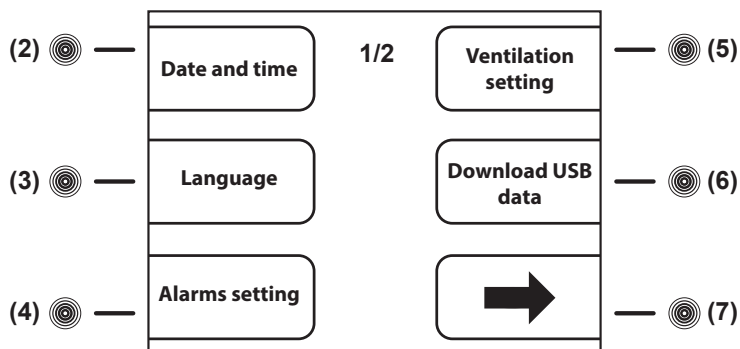
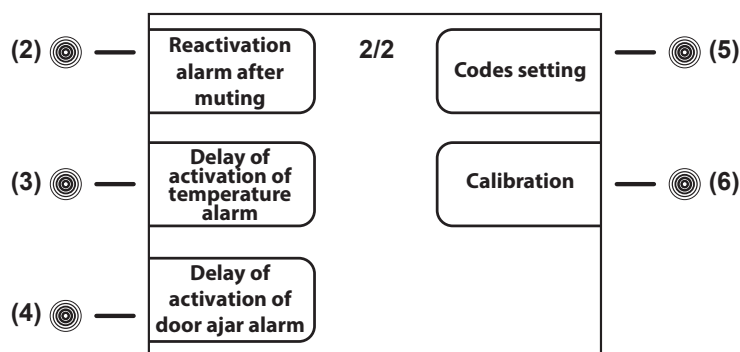

Fig.15
Fig.16
To access to the SETTING menu, press the **touch-button (7)** from the main menu screen-shot. The access is to the first page of the menu (**Fig.15**).
To access to the second page of the SETTING menu (**Fig.16**), press the **touch-button (7)→** from the first page of the SETTING menu (**Fig.15**).
- press the **touch-button (7)** to access to the setting menu (**Fig.15**)
- press the **touch-button (3)** to select the menu "Language"
- using the **touch-buttons (4)↑** and **(7)↓** to set the desired language and then press the **ENTER touch-button (12)** to confirm the new settings
8.3.6.2 Alarm setting (touch-button (4) Fig.15)
To access to the ALARM SETTING menu, press the **touch-button (4)** while the display shows the first page of the setting menu (**Fig.15**).
- press the **touch-button (4)** to access to the screen-shot SETTING PRODUCT LOW TEMPERATURE ALARM
- press the **touch-button (4)-** and **(7)+** to set the desired value
- press the **touch-button (7)** to access to the screen-shot SETTING PRODUCT HIGH TEMPERATURE ALARM
- press the **ENTER touch-button (12)** to confirm the new setting and the **ESC touch-button (11)** to return back to the previous menu or **HOME touch-button (10)** to return back to the main screen-shot
8.3.6.3 Ventilation setting (touch-button (5) Fig.15)
To access to the VENTILATION SETTING, press the **touch-button (5)** while the display shows the first page of the setting menu (Fig.15).
- press the **touch-button (4)-** and **(7)+** to select among the 3 levels of ventilation available:
8.3.6.4 Download USB data (touch-button (6) Fig.15)
- To access to the DOWNLOAD USB DATA menu, press the **touch-button (6)** while the display shows the first page of the setting menu (Fig.15)
- press the **touch-button (5)↑** and **(6)↓** to scroll among the list of the possible data to download
- press the **touch-button (4)-** to clear the data (at the right of the display in correspondence of the data appears "no") or press the **touch-button (7)+** to select the data (at the right of the display in correspondence of the data appears "yes")
- press the **ENTER touch-button (12)** to confirm and enter in the Download USB screen-shot
- press the **ENTER touch-button (12)** to confirm and enter in the DATE AND TIME
- repeat the last 2 operations for all the numerical values in both calendar and clock, then press the **ENTER touch-button (12)** to confirm the details and process the download or the **ESC touch-button (11)** to return back to the previous menu
8.3.6.5 Reactivation alarm after muting (touch-button (2) Fig.16)
To access to the REACTIVATION ALARM AFTER MUTING, press the **touch-button (2)** while the display shows the second page of the setting menu (Fig.16).
- press the **touch-button (4)-** and **(7)+** to set the desired value (expressed in seconds, max. 900) that has to pass from the automatic reactivation of the acoustic alarm after the acoustic alarm signalling has been muted. The reactivation only works in case the alarm condition persists. If set the value "0", the reactivation is disabled
8.3.6.6 Temperature alarm activation delay (touch-button (3) Fig.16)
To access to the DELAY OF ACTIVATION OF TEMPERATURE ALARM, press the **touch-button (3)** while the display shows the second page of the setting menu (Fig.16).
- press the **touch-button (4)-** and **(7)+** to set the desired value (expressed in seconds, max. 900) that has to pass from the starting of the alarm condition of a temperature alarm till its signalling on the display and through the buzzer
8.3.6.7 Door ajar alarm activation delay (touch-button (4) Fig.16)
To access to the DELAY OF ACTIVATION OF DOOR AJAR ALARM, press the **touch-button (4)** while the display shows the second page of the setting menu (Fig.16).
- press the **touch-button (4)- and (7)+** to set the desired value (expressed In seconds, max. 600) that has to pass from the opening of the door till its signalling on the display and through the buzzer